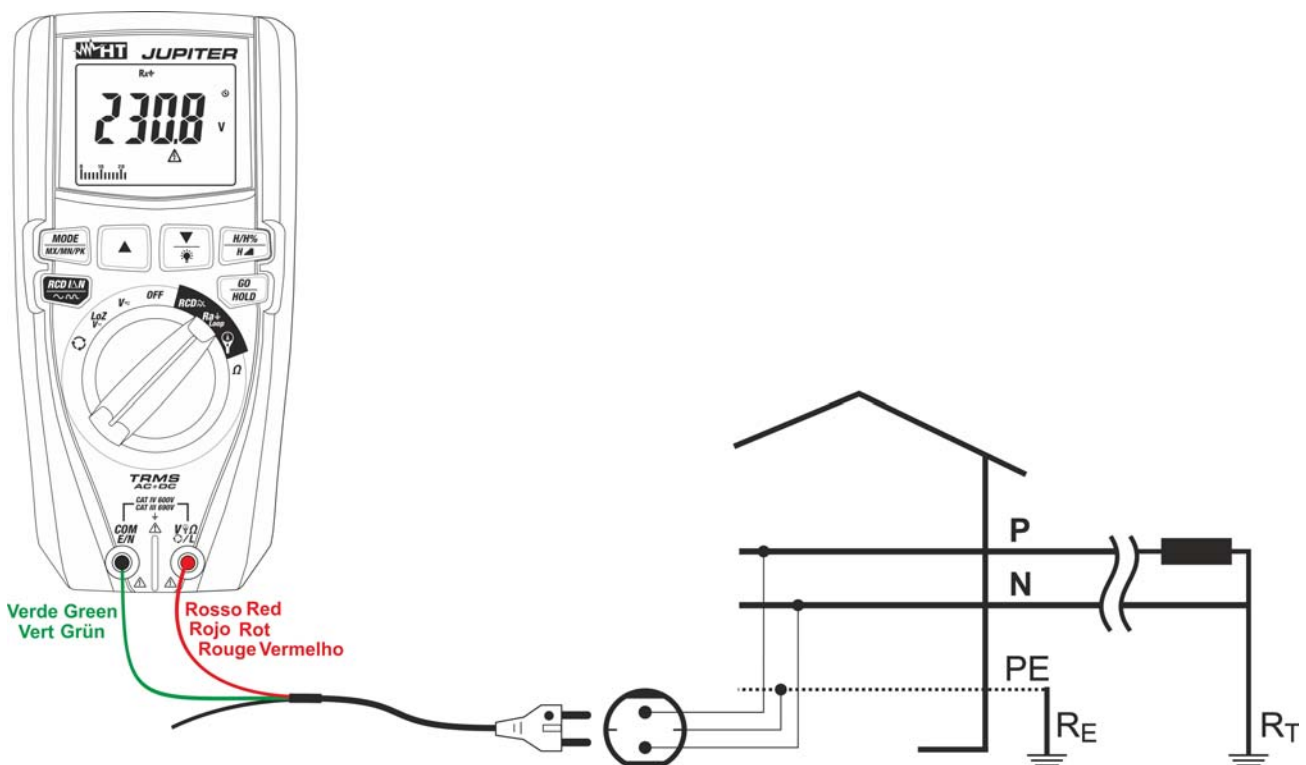

Fig. 23: Use of the instrument for measuring Loop L-PE impedance with cable provided with Schuko plug
5. **For Loop L-PE measurements**, in case the cable with Shuko plug is used, insert the red conductor into input terminal **V Ω OL** and the green conductor into input terminal **COM/E/N** and connect the instrument to the system to be tested (see Fig. 23). The value of voltage Phase-Earth is shown on the display